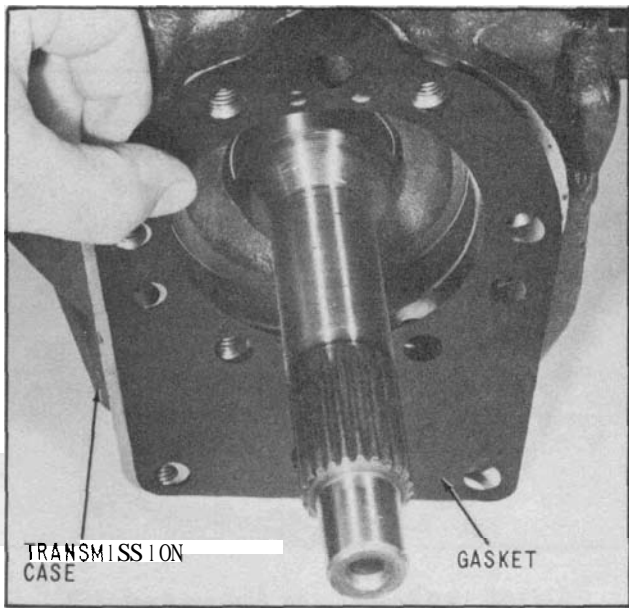

Fig. 17 Installing Reduction Unit Adapter Gasket-Front
8. Coat rear face of case with petroleum jelly and install reduction unit adapter gasket-front on rear face of transmission case as shown in (Fig. 17).